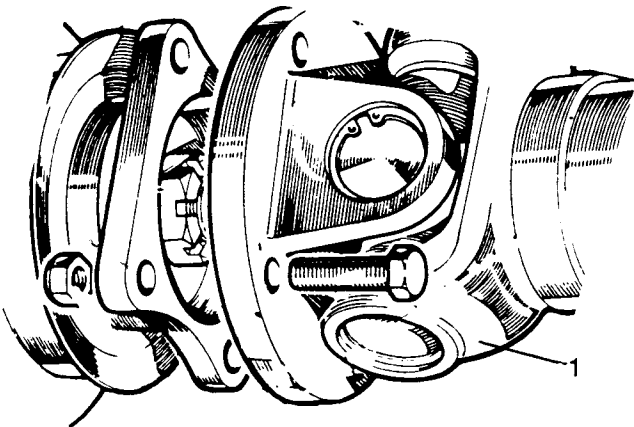

Fig J1.16
- (7) Refer to Fig J1.16. Reconnect the rear propeller shaft (1).
- (8) Replace the rear road wheels.
- (9) Lower the vehicle to the ground and move vehicle bodily backward and forward to settle the springs.
- (10) Tighten all six shackle pins and locknuts.